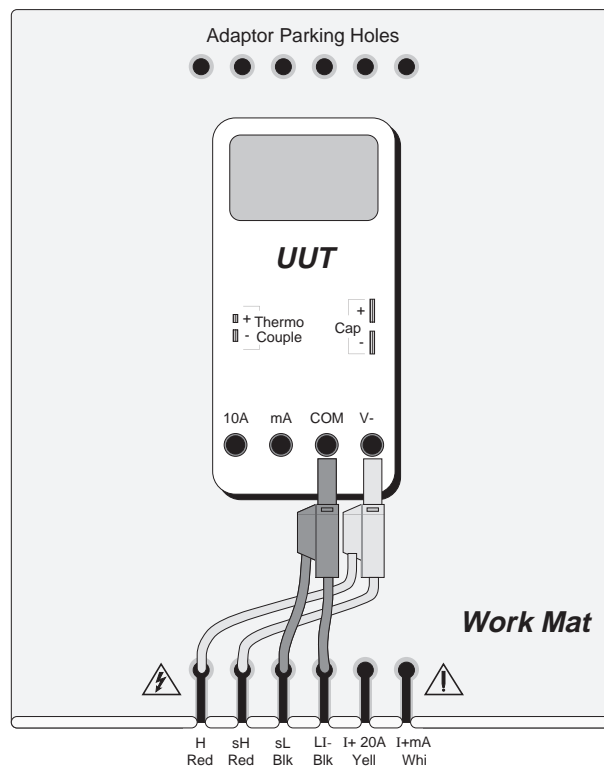

Fig. 10.1 Connections for Mark/Period Calibration
1. Connections Connect the 9100 to the UUT as shown in Fig. 10.1, and ensure that both instruments are powered ON and warmed up.
Connect the 9100 to the UUT as shown in *Fig. 10.1*, and ensure that both instruments are powered ON and warmed up.